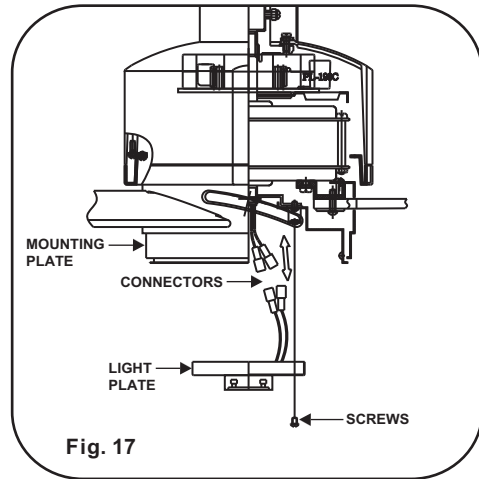

Fig. 17
Step 2. Raise and hold the light plate close to the mounting plate and proceed to do the wire connections. Connect the white wire connectors from the light plate and fan, follow the same procedure with the black wire connectors. (Fig. 17)
Step 3. Place the key holes from the light plate over the 2 screws previously loosened from the mounting plate, turn light plate until it locks in place at the narrow section of the key holes. Secure by tightening the 2 screws previously loosened and the one previously removed. (Fig. 17)